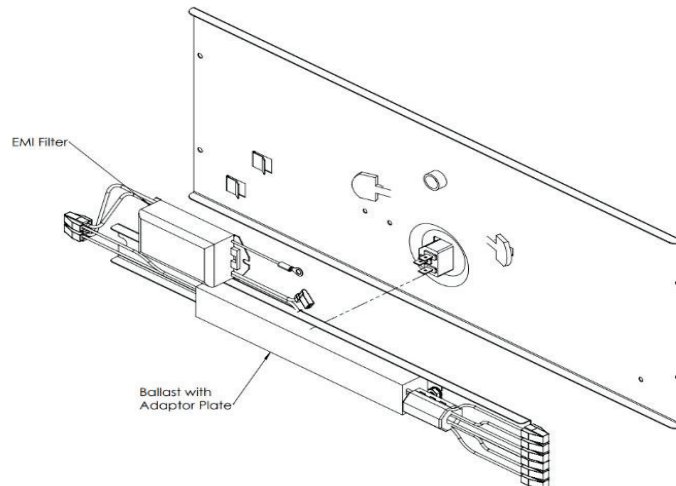

Figure 5. Install Replacement Components
- Step 7.** Install the replacement ballast with adaptor plate and EMI filter in the same orientation as the removed components. See Figure 5.